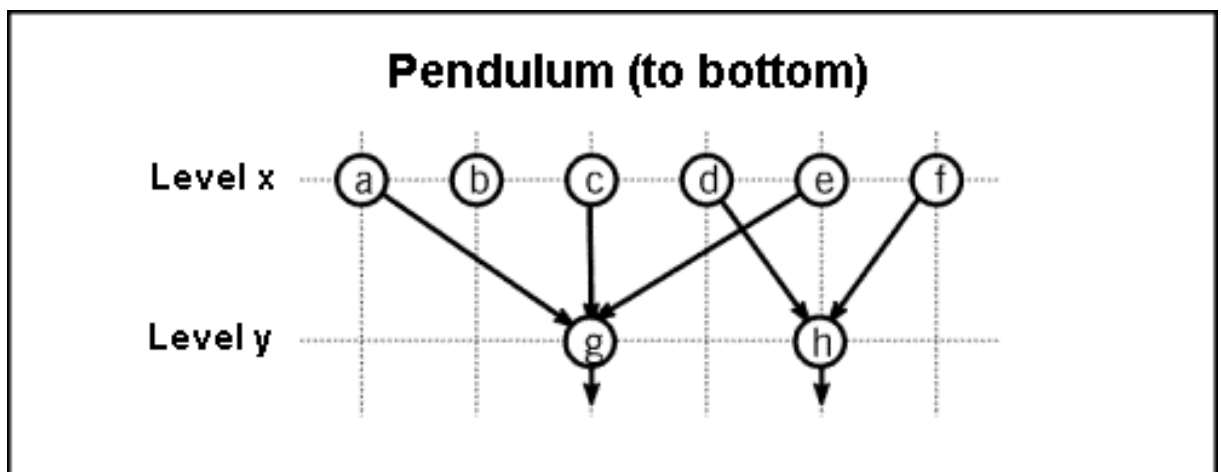

Figure 137: Schematic representation - Method pendulum down
- Method pendulum down:** The horizontal position of an object at one layer is optimised according to the position of objects at hierarchically higher layers, which are linked with it (as far as possible) (see fig. 137). We recommend that this option should be activated with a maximum of 10 iterations.